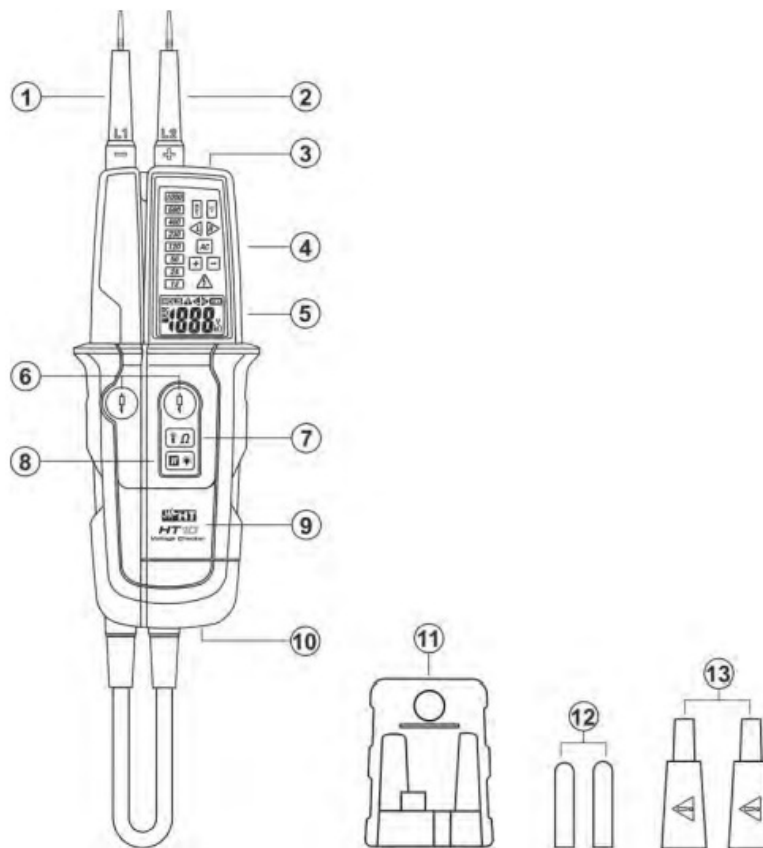
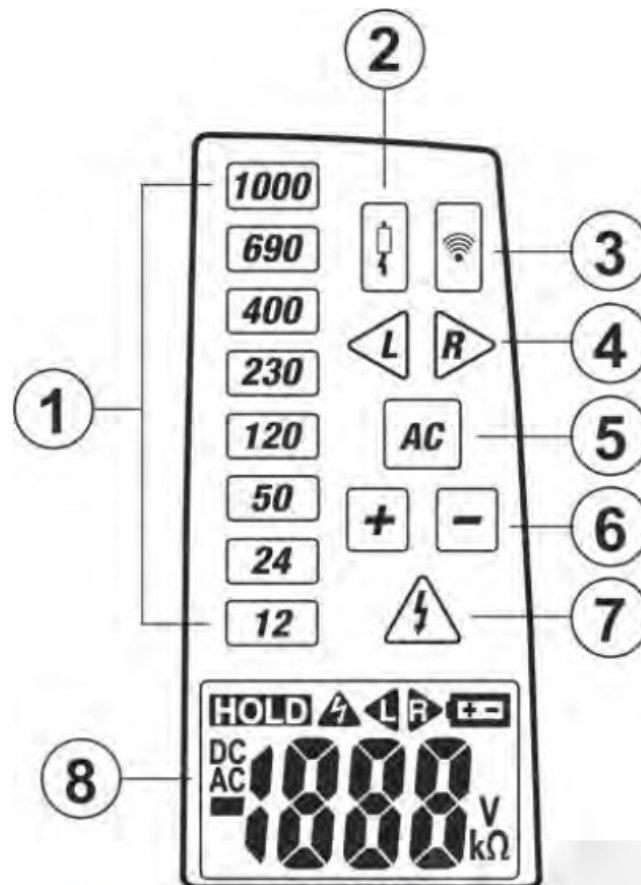

Fig. 1: Instruments description
Fig. 2: Description of warning LEDs
4. Press the two switches (see Fig. 1 – part 6) simultaneously. The applied voltage is displayed both through red LEDs switching on and on the display. AC symbol is displayed. The LED for low impedance test (see Fig. 2 – part 2) switches on